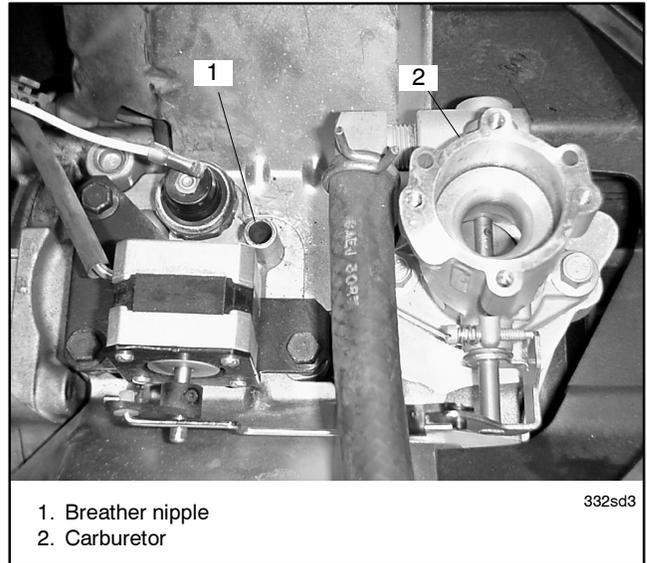

Figure 8 Engine Crankcase Breather Nipple
2. Place the heater on the carburetor without a gasket and adjust the angle of the breather tube to line up with the breather nipple on the engine crankcase. See Figure 8.